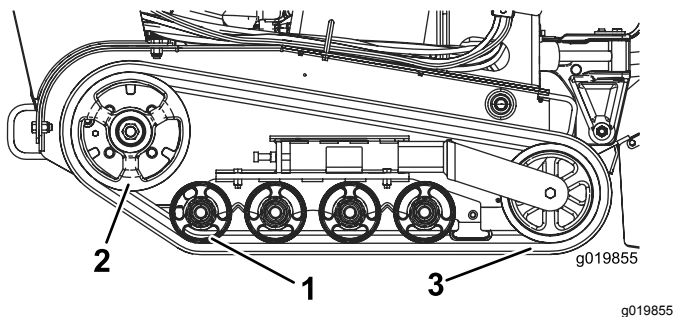

Figure 46
**Important:** Ensure that you fully clean the road wheels and the drive wheel (Figure 46). The road wheels should rotate freely when clean.
8. Beginning at the drive wheel, coil the new track around the wheel, ensuring that the lugs on the track fit between the spacers on the wheel (Figure 46).
9. Push the track under and between the rear and center road wheels (Figure 46).